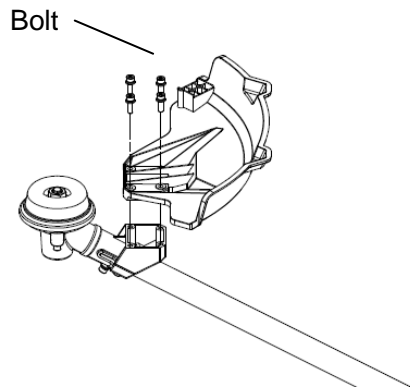

Fig. 6
2. Lift the trimmer head and face it upward. Align the four mounting holes in the guard with the four assembly holes at the base of the shaft. Ensure that the guard's internal surface faces towards the trimmer head. (Fig. 6)
3. Lock the guard in place and screw the four bolts on with the washers (Fig. 6).